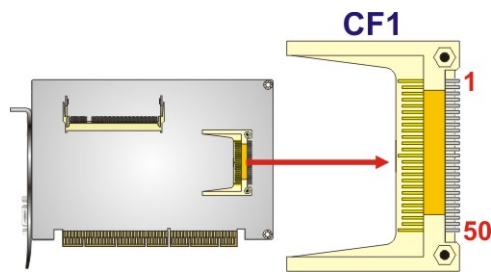

Figure 3-5: CF Card Socket Location
- CN Location:** See **Figure 3-5**